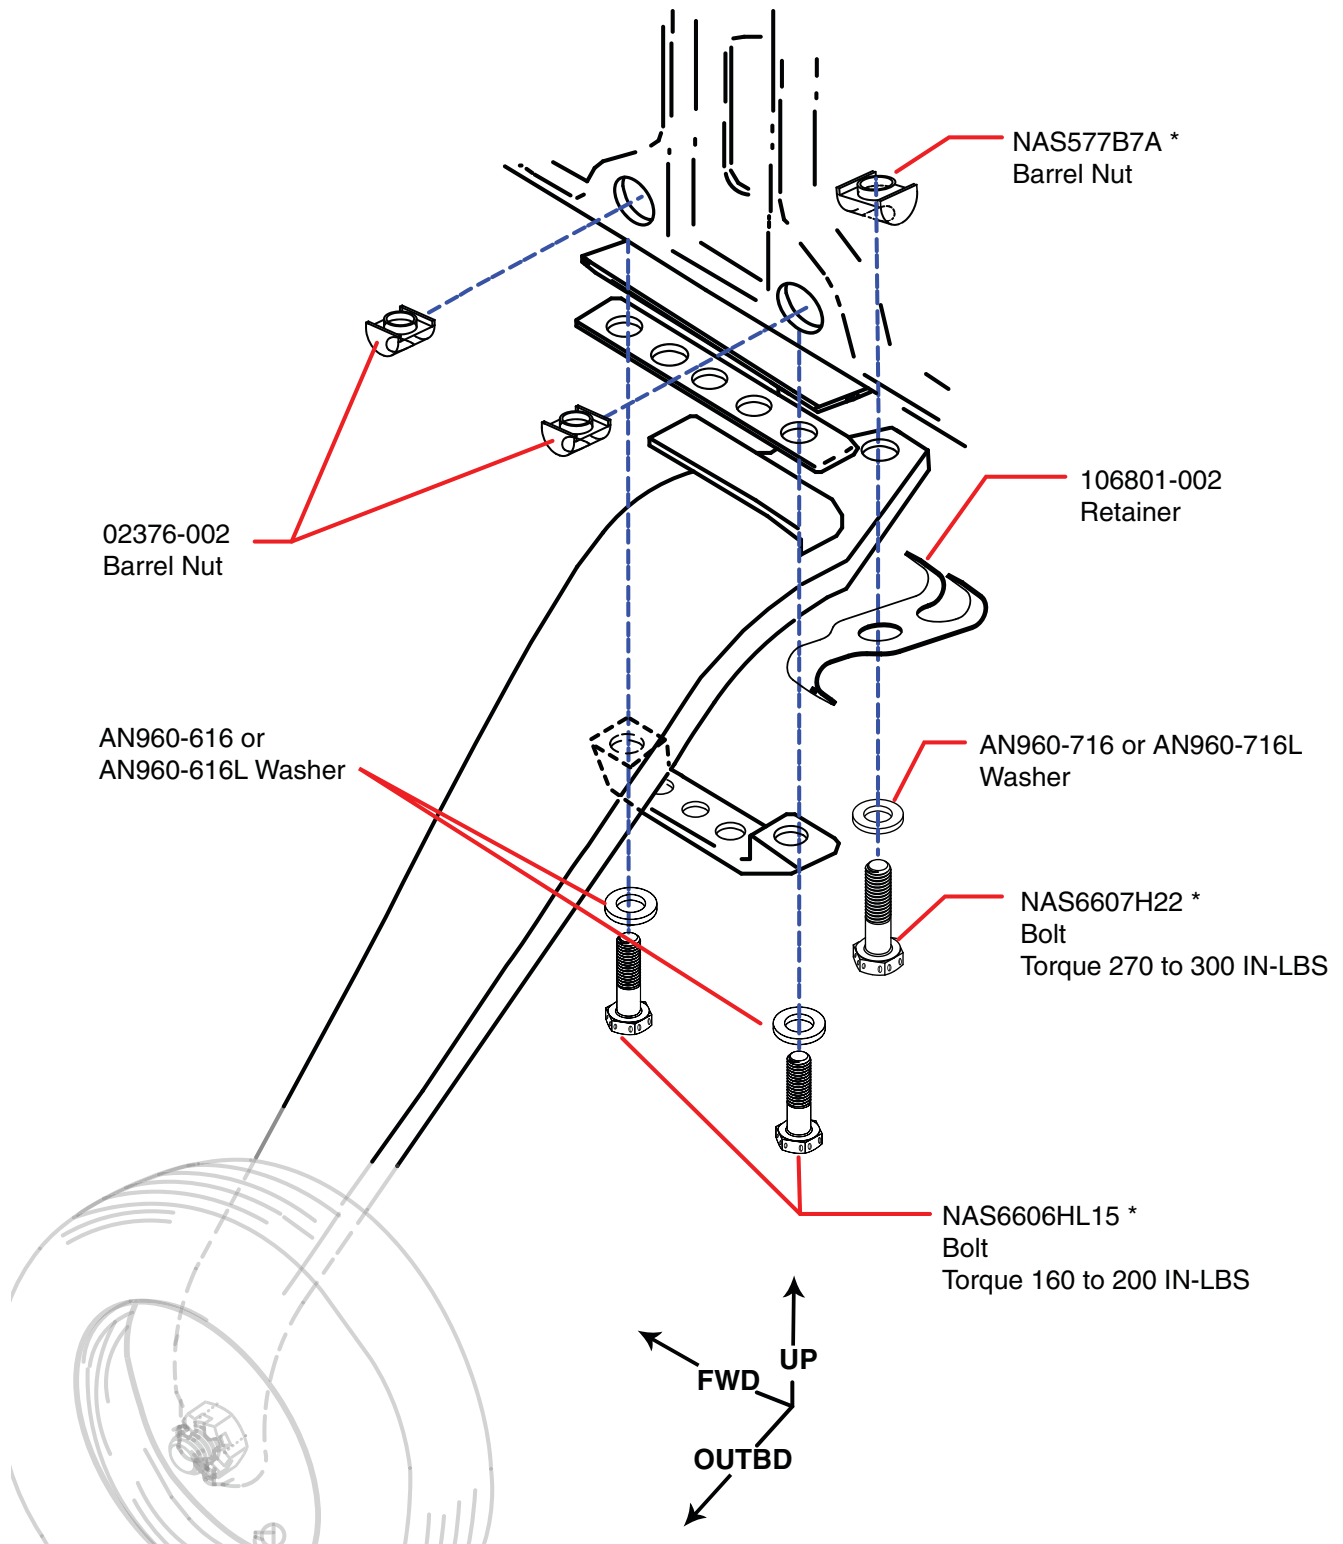

Figure 1
3. Remove safety wire from the landing gear attach bolts (quantity 3 per side, total 6 per aircraft) and discard. Check bolts for proper torque as shown in Figure 1.
4. Install new replacement hardware, as shown in Figure 1 and as listed in Materials Required - **Table 4**. All other components that are free of damage or corrosion may be re-used at their original locations. Torque bolts according to the following procedure: